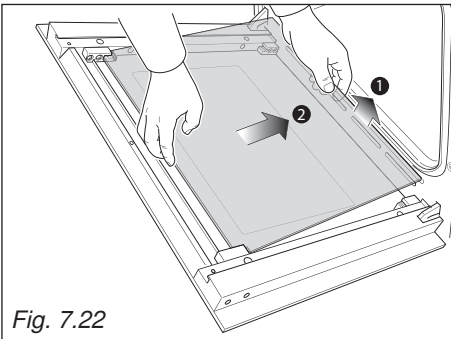

Fig. 7.22
- Gently lift the bottom edge of the pane (arrow 1 in fig. 7.22) and remove it by pulling it out from the top clamps (arrow 2 in fig. 7.22).